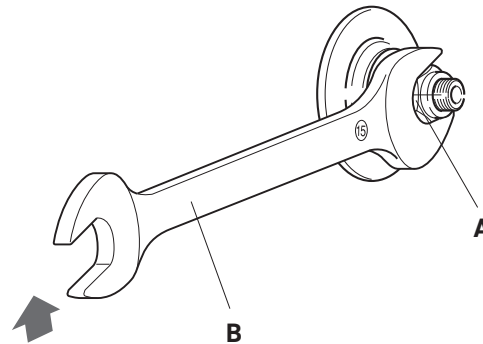

Fig. 20
- Lock the wheel with the nut (A - Fig. 20) using a 15 mm spanner (B - Fig. 20), keeping the axle from rotating with another 15 mm spanner placed on the nut on the opposite side.